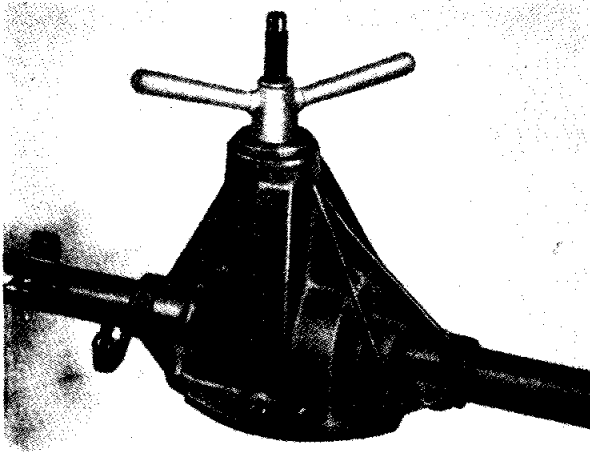
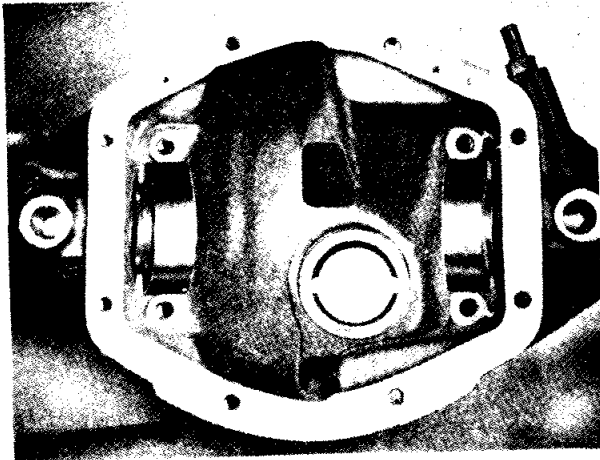

Fig. 18 Fitting pinion bearings outer rings utilising Churchill Tool No. M70.
Fig. 22 Shims placed in position on outer ring abutment face.
- (i) Fit the outer rings of the pinions two bearings, pulling them into place with a special tool. (Fig. 18).
- (vi) Insert the measured pack of shims on the pinion head bearing outer ring abutment face (Fig. 22) and replace the pinion bearing outer rings, pulling them into place with the special tool shown in Fig. 18.